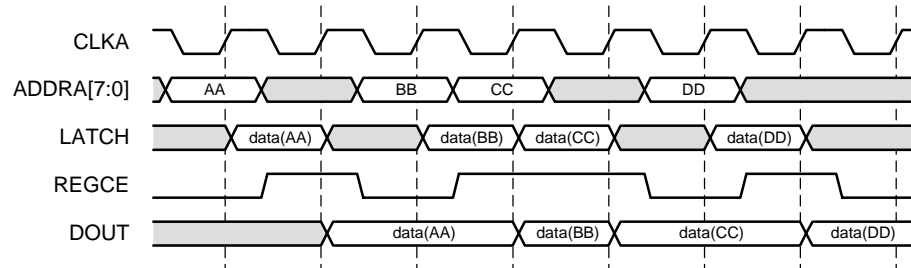

Figure 20: Flow Control Using REGCE
The combination of the enable (EN), reset (SSR), and register enable (REGCE) pins allow a wide range of data flows in the output stage. Figure 19 and Figure 20 are examples on how this can be accomplished. Keep in mind that the SSR and REGCE pins apply only to the last register stage.
Figure 20 depicts how REGCE can be used to latch the data output to allow only intended data through. Assume that only the memory primitive registers are used for port A, and that EN is always asserted and SSR is always deasserted. The data on the block RAM memory latch is labeled latch, while the output of the last register, the block RAM embedded register, is the core output, DOUT.